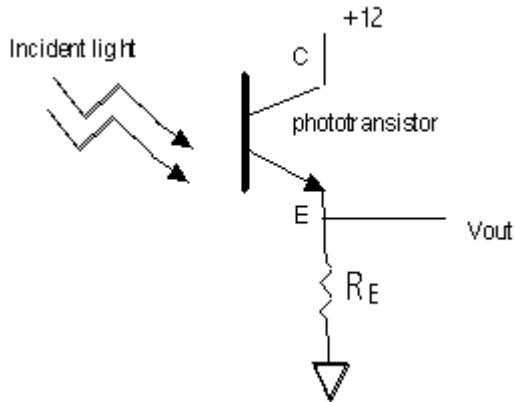

Figure 1. Light meter circuit.
1. Construct Light Meter Circuit: On the larger of the two breadboards supplied, construct IR light meter circuit shown in Figure 1. (Note that some of the phototransistors have only two leads with no wired connection to the base.) Infrared (IR) light that falls on the base of the transistor generates a low level current that is amplified, with the resulting current flowing out through the collector-emitter junction. When this current flows through the emitter resistor, R_E , a voltage level proportional to the incident light intensity can be observed between the emitter and ground. Use the multimeter to monitor this voltage level when different amounts of light shine on the phototransistor. Try different resistors. Depending on the requirements of the system and the characteristics of the phototransistor, a variety of resistor values from 500Ω to $1M\Omega$ may be appropriate. (You will be exploring this choice in greater depth over the next few weeks.) In any case, you should pick a resistor for which V_{out} in room light is not "saturated" within a few tenths of a volt of 12V. (The transistor only functions as an effective amplifier when the voltage between the collector and emitter is greater than about 0.5V.) Once the output is saturated, changes in the amount of light have little effect on the output voltage, so the detector no longer detects changes in light intensity! Note in your notebook what happens when you a) move the breadboard to different locations near your workbench; b) cover the phototransistor with your hand or other opaque object; c) partially block the overhead lights using your body, d) point the phototransistor at the room lights. Determine the voltage corresponding to the normal "background level" of ambient light in the room. Be sure to record this voltage in your notebook as you will need to use it later on.